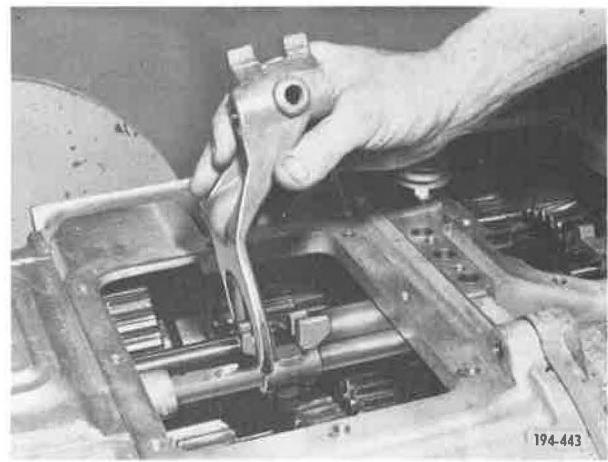

Figure 5-574. Removing Fourth and Fifth Speed Shifter Fork
6. Remove shifter and shifter fork set-screws. Withdraw shift rails from front case and at the same time remove shifter forks and shifters. See Figure 5-574.